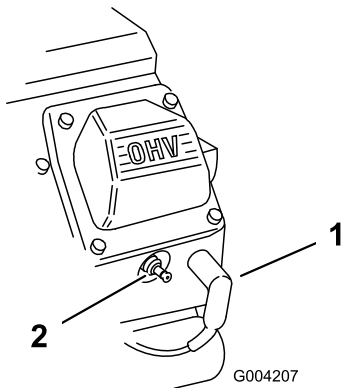

Figure 50
2. Pull the wires off the spark plugs (Figure 50).
3. Push the wires onto the spark plugs (Figure 50).